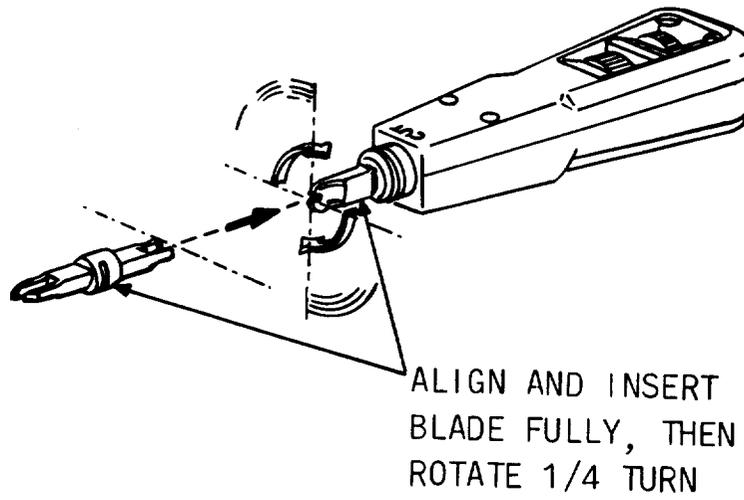

Fig. 4—Mounting Blades in Handle
2.12 Blades may be changed or reversed (Fig. 4) as follows: